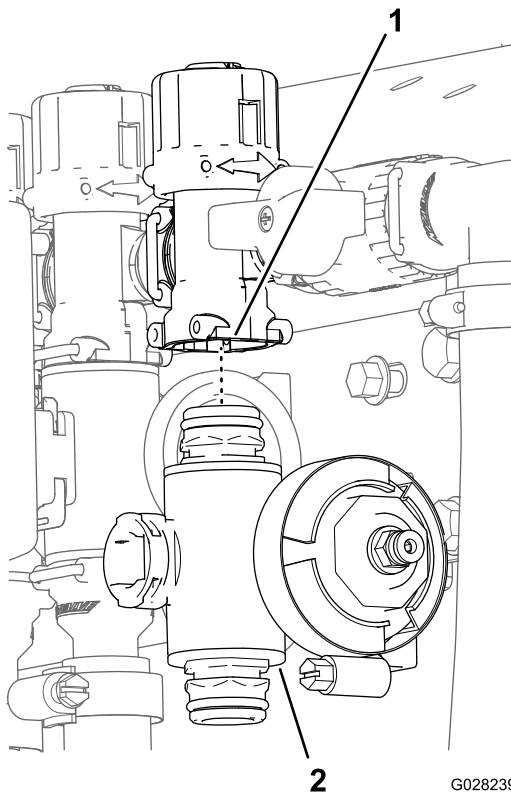

Figure 82
3. Remove the section valve manifold from the machine (Figure 82).